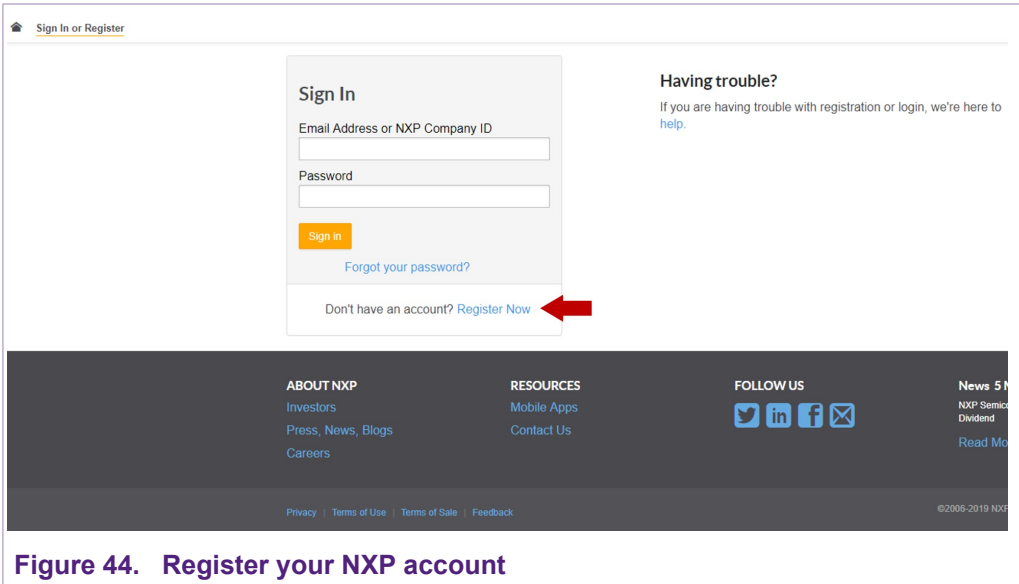

Figure 44. Register your NXP account
- 2. You will be asked to sign-in with your account at the NXP website. If you do not have an account, click on **Register Now** as shown in Figure 44: